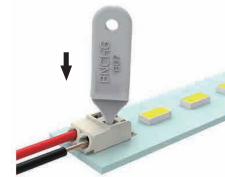

Fig.6
**Note: if the lamp needs to be removed or replaced, please use the B07 Operation tools and remove the power wire.(as Fig.6)**